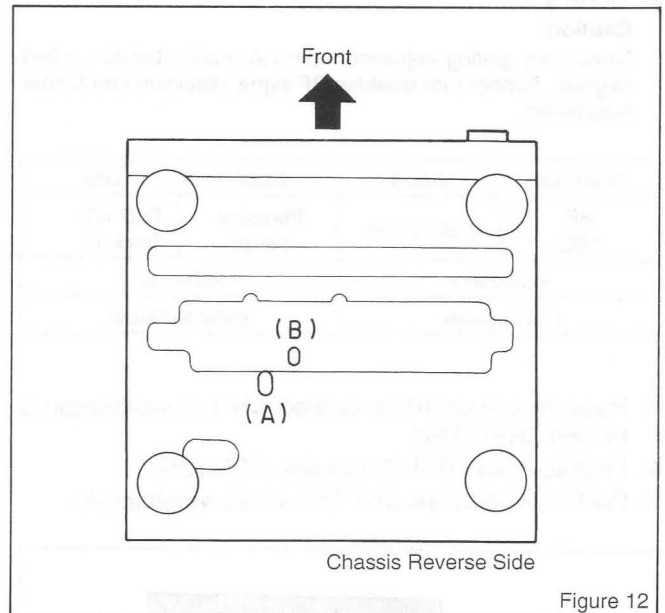

Figure 12
By playing back track 10 tangential roller (A) [Figure 9] adjustment screw appears in the hole position (A) of the chassis. [Figure 12]
3. Insert a hexawrench (1.5mm) to the hole (A) on reverse side of the chassis [Figure 12], and adjust tangential (A) adjustment screw so that HF eye pattern reads maximum. Then set it to the center of the optimum range.
4. Set track 10 to playback pause. In this mode, grating hole (Figure 9) comes to the hole position of bottom plate [Figure 12].